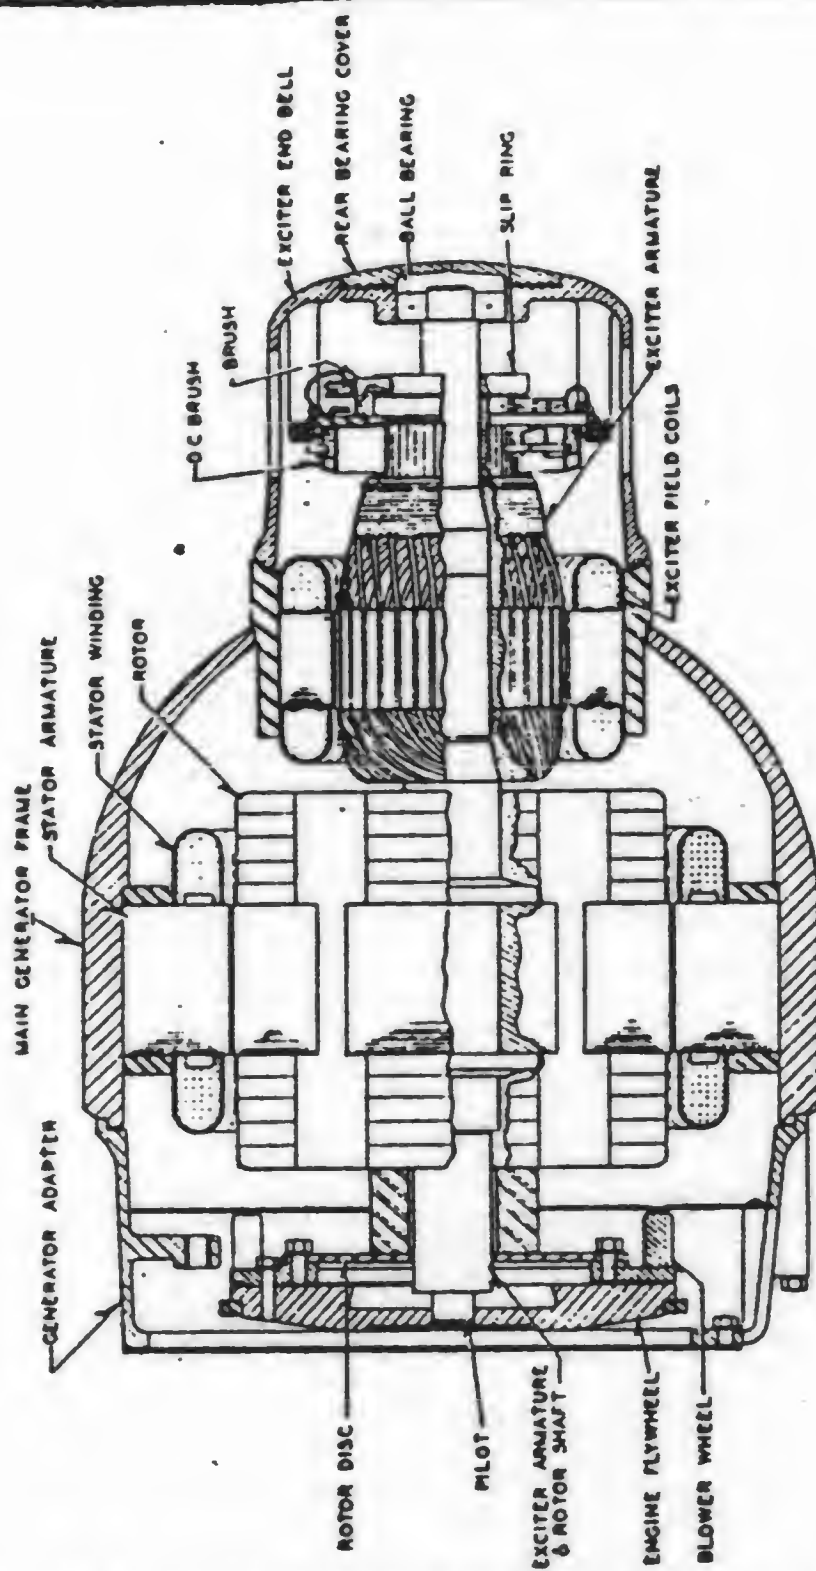

FIG. 40 GENERATOR CROSS SECTIONAL DIAGRAM
b. *Major Servicing.*—Replacement of exciter field coils, rotor or stator (Fig. 40), will require removing major parts of the generator. The housing super-structure must be removed before such major servicing of the generator can be done.
(1) Disconnect all wires leading from the power unit.
(2) Remove the side and top panels from the housing. To remove the front top panel it will be necessary to remove the bolts by which the retaining chains are attached to the panel.
(3) Disconnect all battery cables at the battery. Remove the four thumb screws and the top frame which hold the battery down. Remove the battery and the sliding battery tray.
(4) Remove three screws from the top edge of the control panel and tip the panel out and down to a horizontal position.
(5) Disconnect from the panel the bond strap extending from the exciter end bell. Disconnect the four main generator leads at the a-c terminal block. Attach numbered tags to the wires as they are removed, to assure proper connections when reassembling.
(6) Close the control panel and replace the center screw.
(7) Remove the tape from the wire harness assembly which extends forward over the generator.
(8) Disconnect the larger cable from the right hand terminal of the solenoid starting switch.
(9) Disconnect the wire from the electric choke.